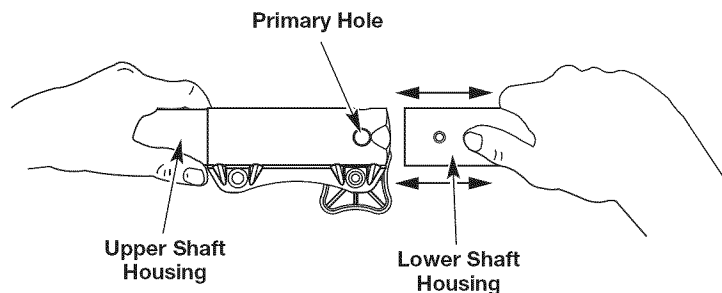

Fig. 5
2. While firmly holding the attachment, push it straight into the Convertible™ coupler until the release button snaps firmly into the primary hole (Fig. 5).
3. While firmly holding the upper shaft housing, pull the attachment straight out of the Convertible™ coupler (Fig. 5).